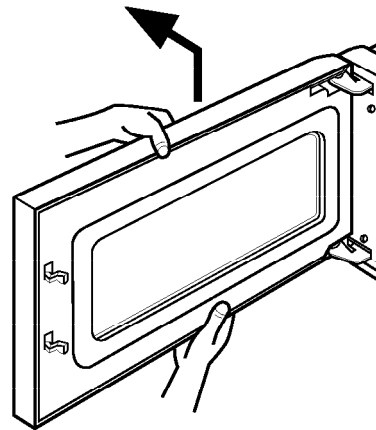

Figure 24
G. REMOVING DOOR (Figure 24)
- (1) Remove the vent grille by removing two screws securing it to the front bracket.
- (2) Lift up and push the door.